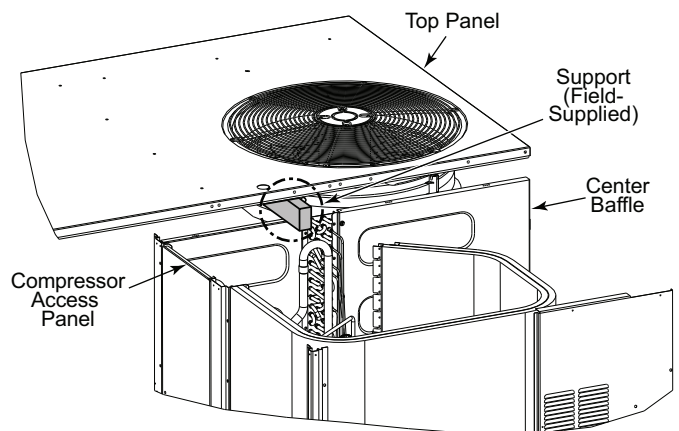

Fig. 18 — Top Panel Position
3. Lift and rotate the top panel at the condenser fan end and rotate the panel 90 degrees. Support the top panel so it remains level while resting on the condenser fan as shown in Fig. 18.